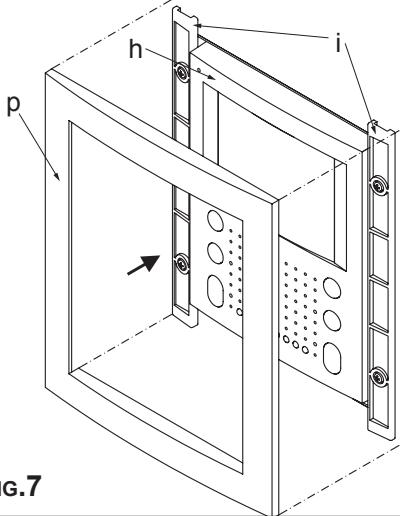

FIG.7
- As shown on figure 7, align the frame "p" with the brackets "i" then push it toward the wall until the frame is hooked.